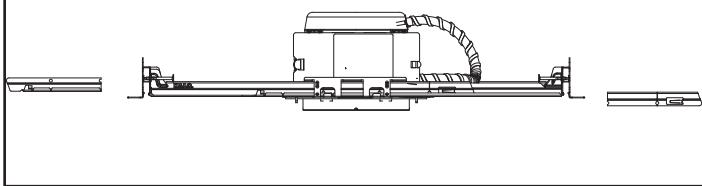

Fig. 3
- Bar Hangers may be shortened to fit 12" framing by breaking at score lines. Pass bar hangers through each end until the bars overlie, then break off at score lines (no tools required and bar hangers do not need to be removed from plaster frame) (Fig. 3).
Étape 3. Placer l'appareil sur les supports en T. Les fixer à l'aide de vis (non fournies) comme illustré (Fig. 3).